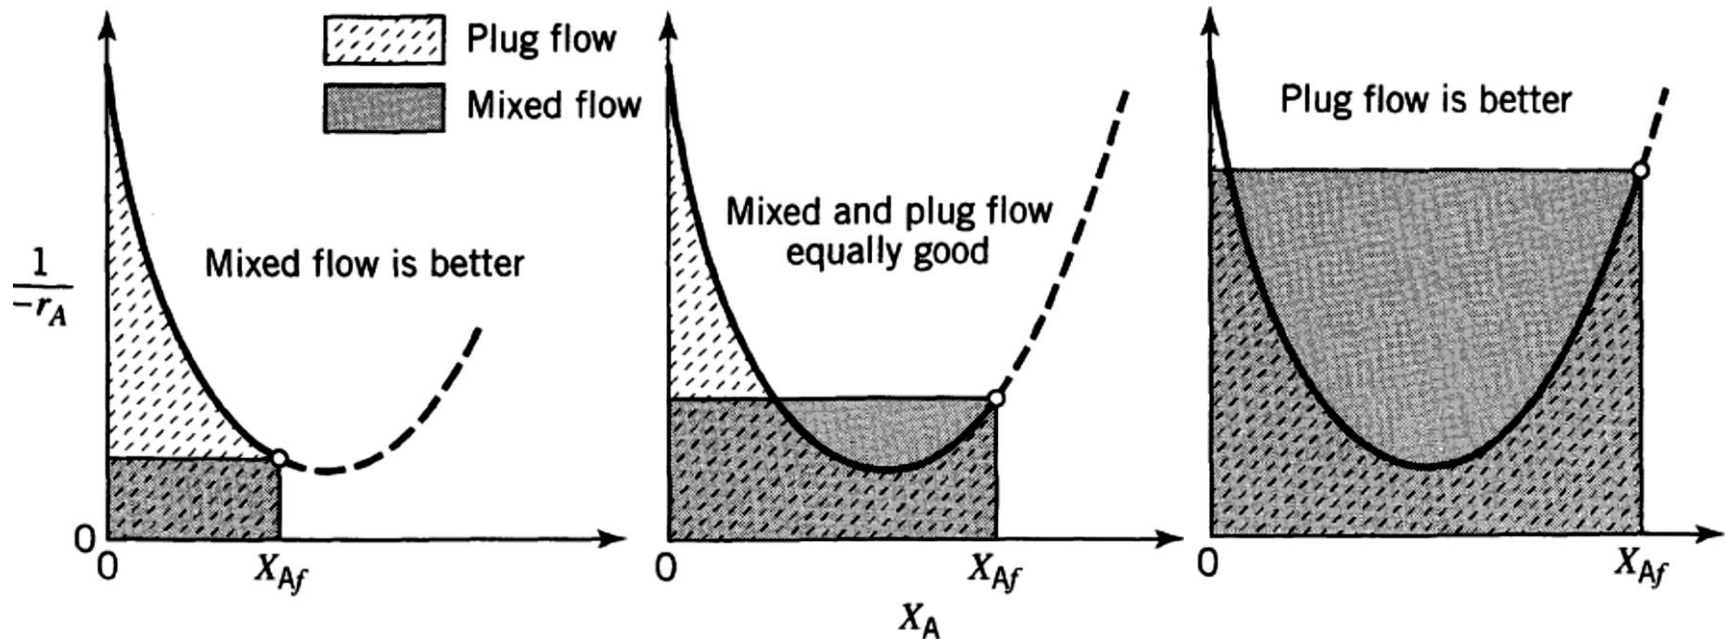

Figure 7-2 MFR vs PFR for autocatalytic reactions
- Comparing a PFR with a MFR for autocatalytic reaction in which there is no recycle, Fig. 7-2 shows which reactor is superior (which requires a smaller volume) for a given job of any particular rate-concentration curve.